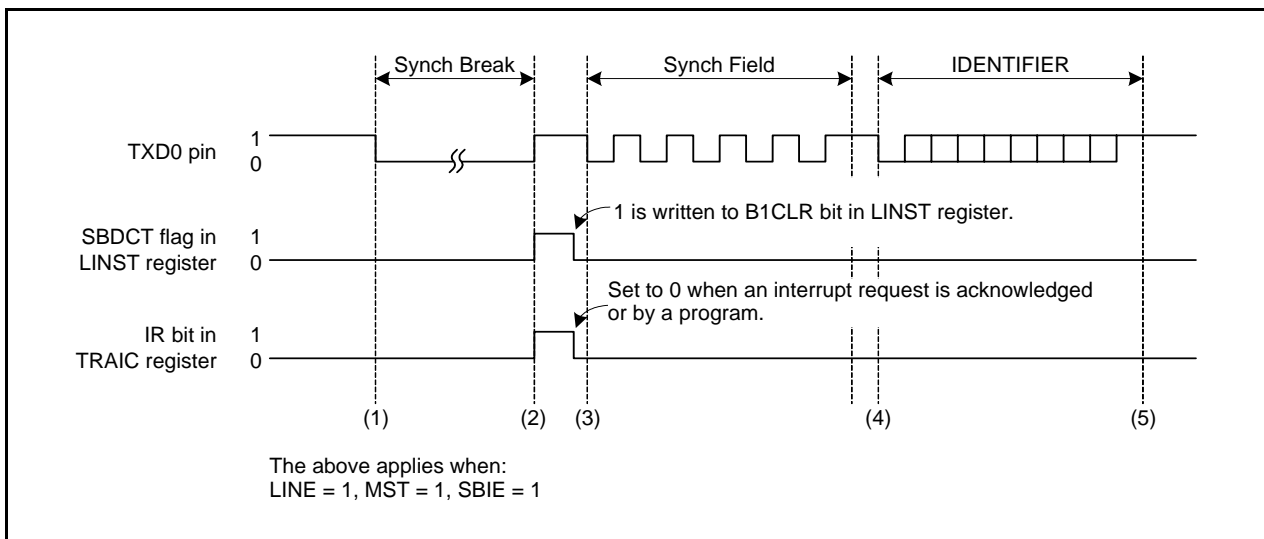
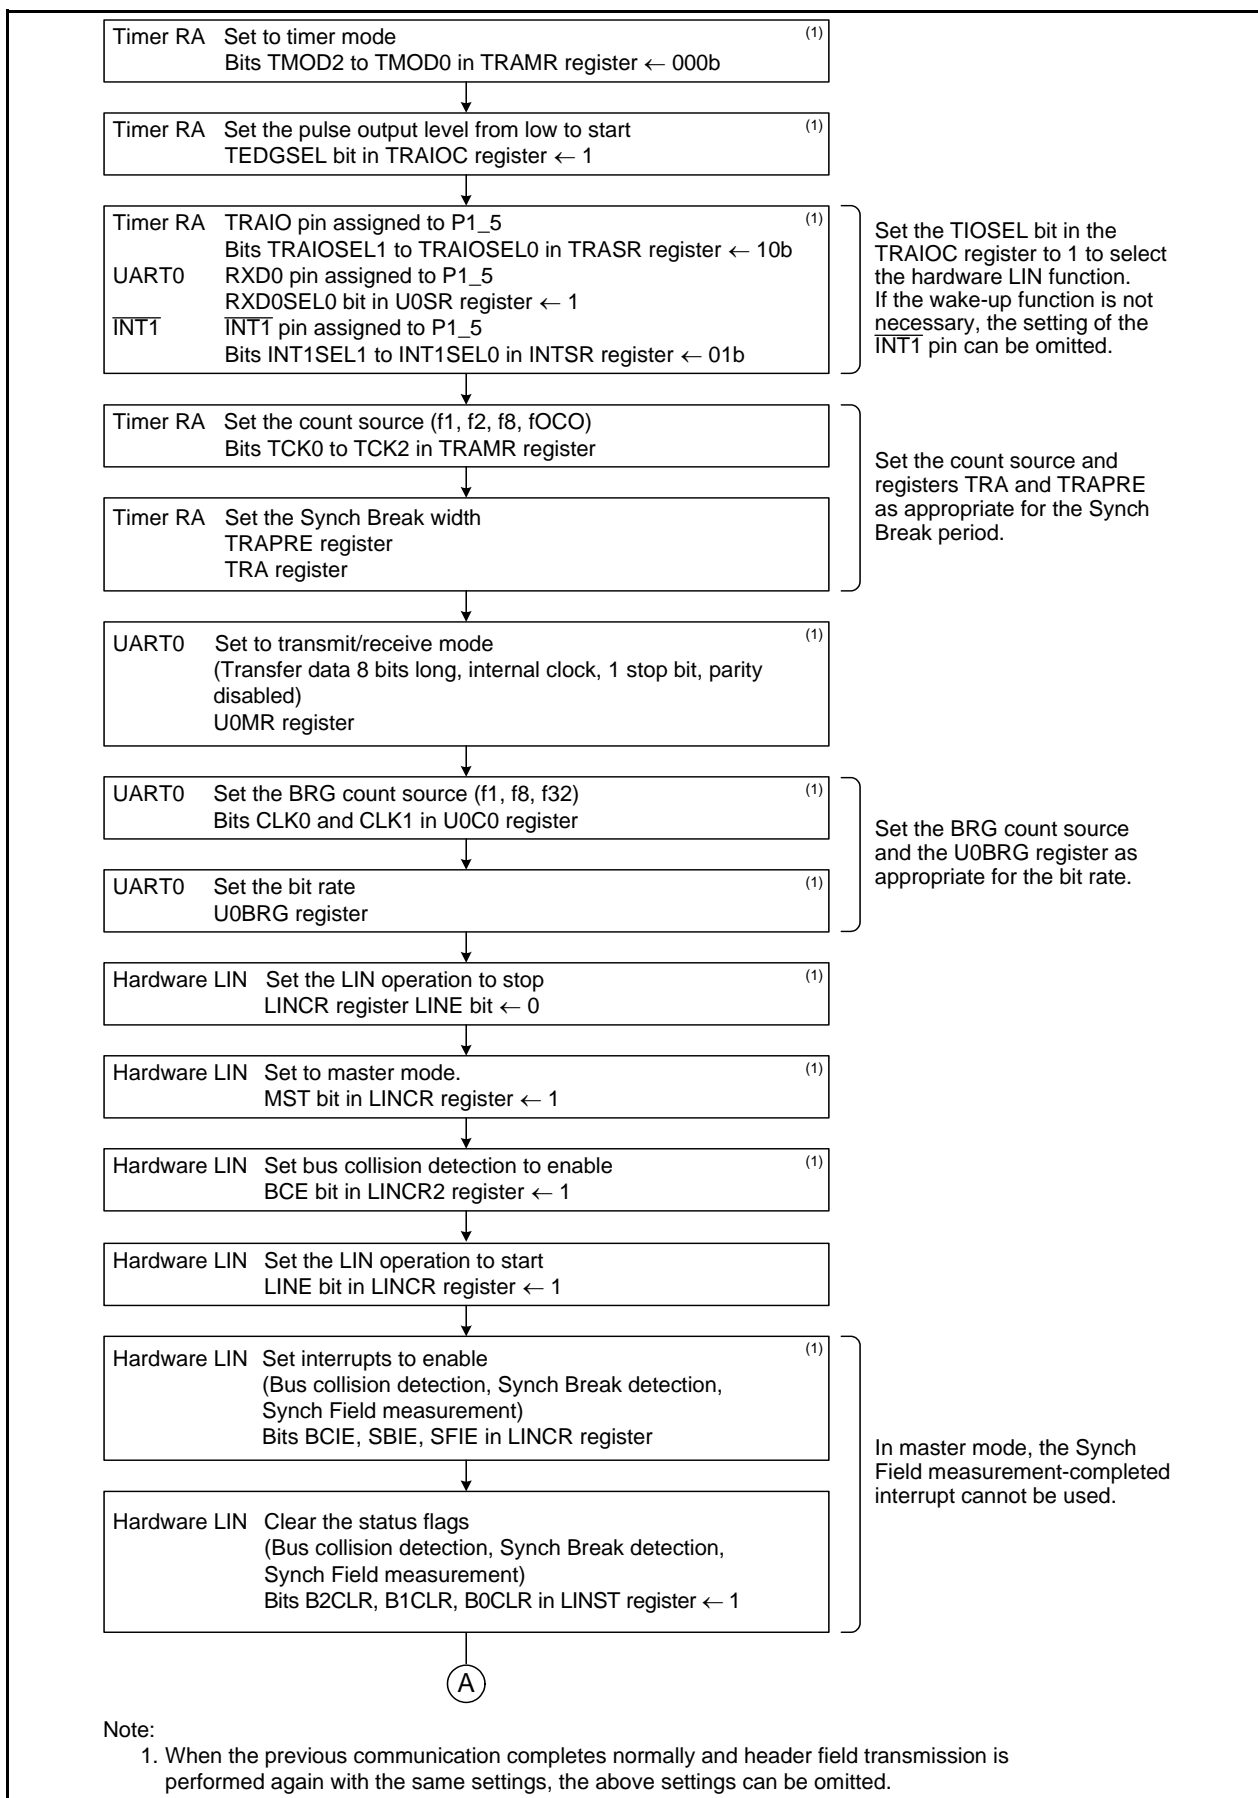
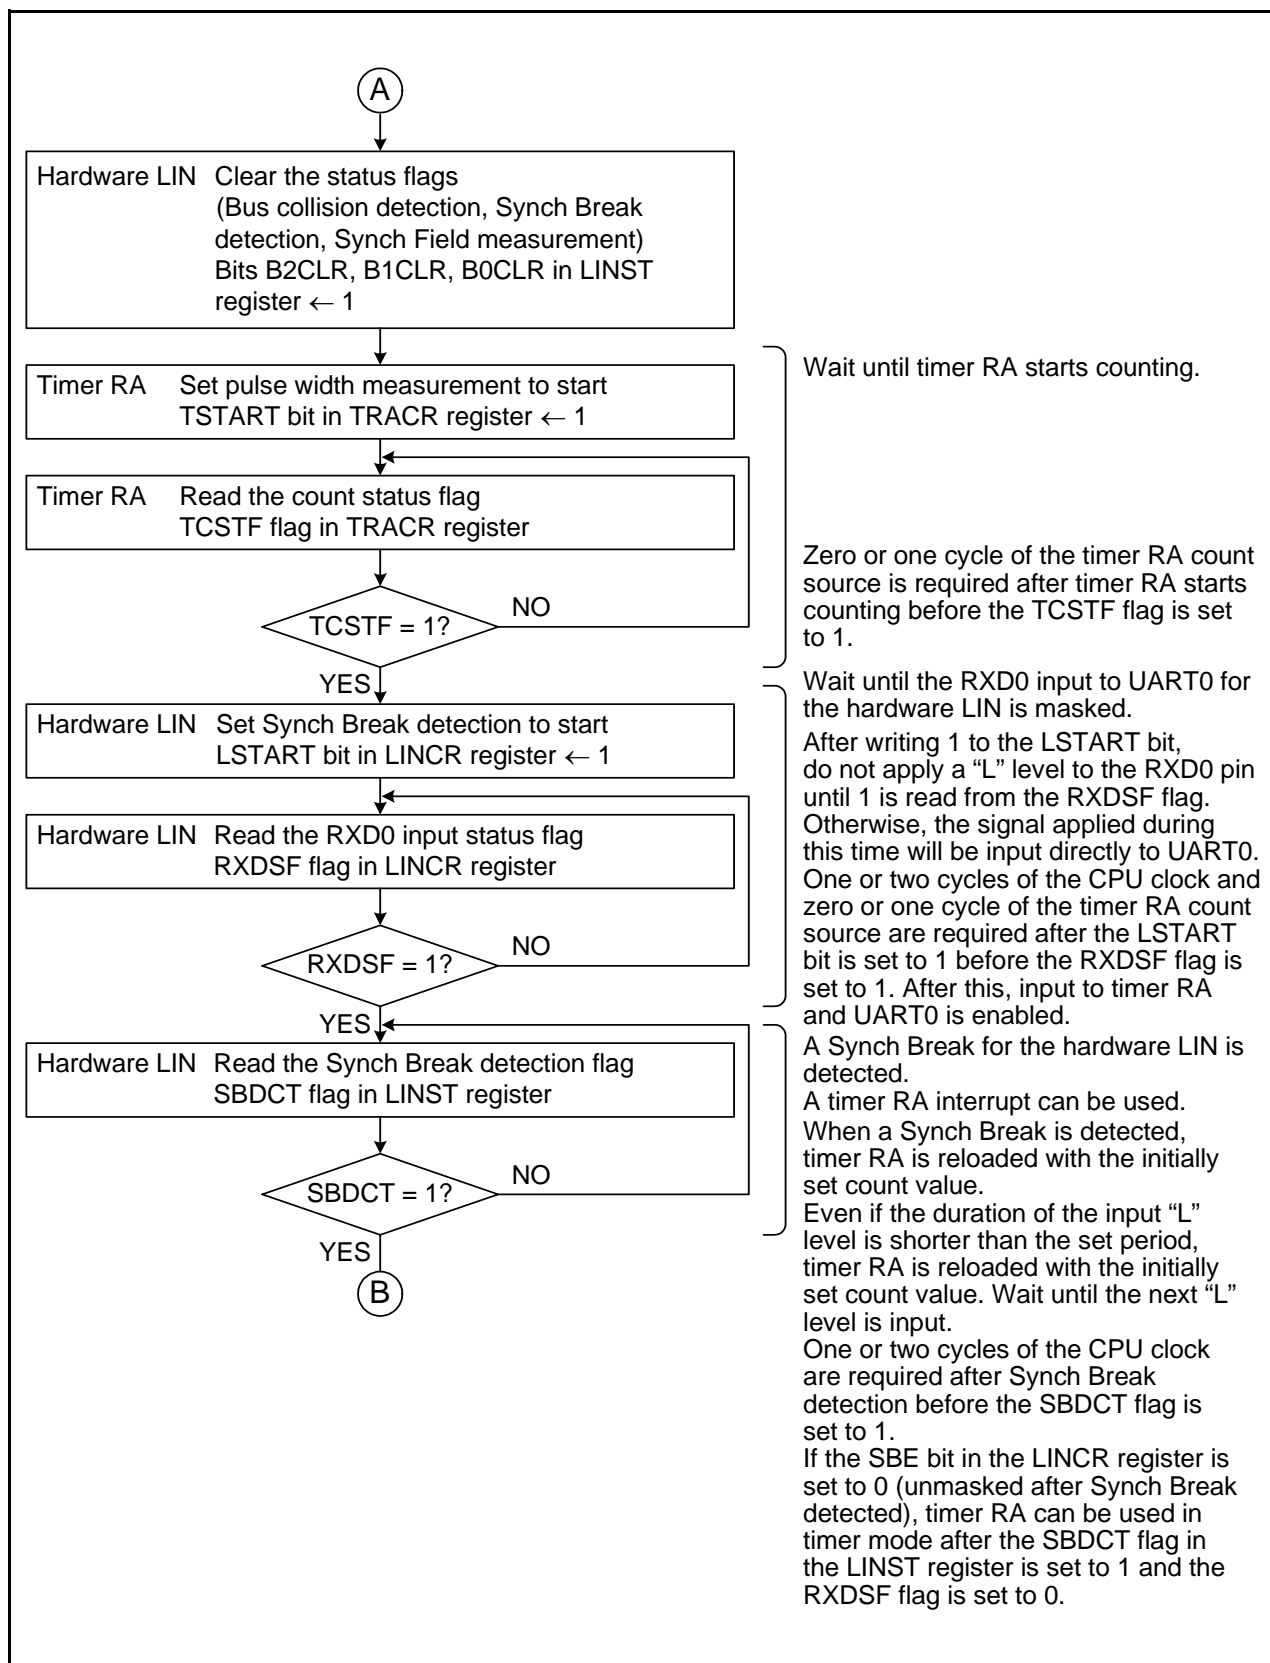

Figure 27.2 Operating Example during Header Field Transmission
Figure 27.3 Header Field Transmission Flowchart Example (1)
Figure 27.7 Header Field Reception Flowchart Example (2)
3. Inputs to timer RA and UART0 are disabled immediately after the LINE bit is set to 1 (LIN operation starts). (Refer to **Figure 27.3 Header Field Transmission Flowchart Example (1)** and **Figure 27.7 Header Field Reception Flowchart Example (2).**)
Figure 27.2 shows an Operating Example during Header Field Transmission in master mode. Figures 27.3 and 27.4 show Examples of Header Field Transmission Flowchart.